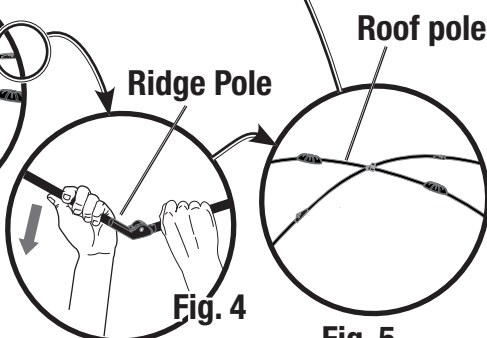

Fig. 4
- Unfold the ridge pole. (Fig. 4 and 5)